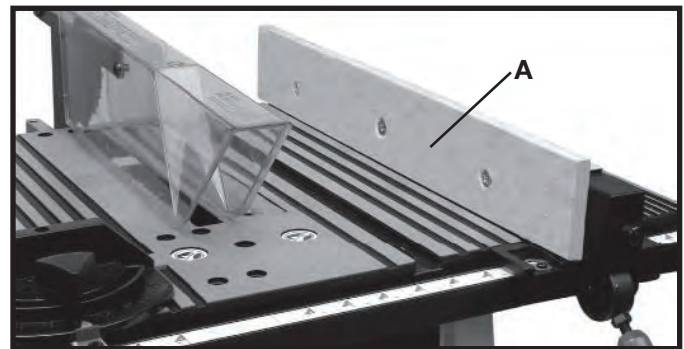

Fig. 43A
Wood facings (A) Fig. 43A are necessary on some special operations to one or both sides of the rip fence. The wood facing is attached to the fence with screws through the holes in the fence. Most work will require a 3/4" stock, although an occasional job may require 1" facing.